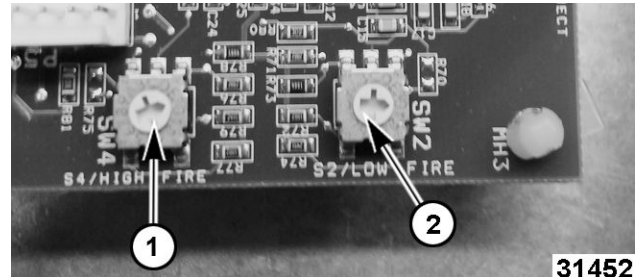

Fig. 50
- High Fire = C (1, Fig. 50)
- Low Fire = 8 (2, Fig. 50)